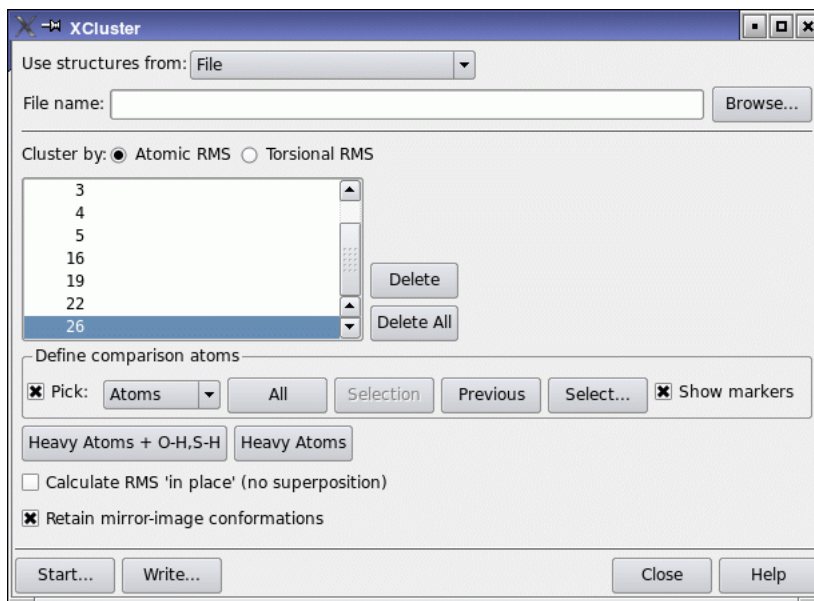

Figure 5.7. The XCluster panel.
3. Choose Project Table (selected entries) from the Use structures from option menu (see Figure 5.7).